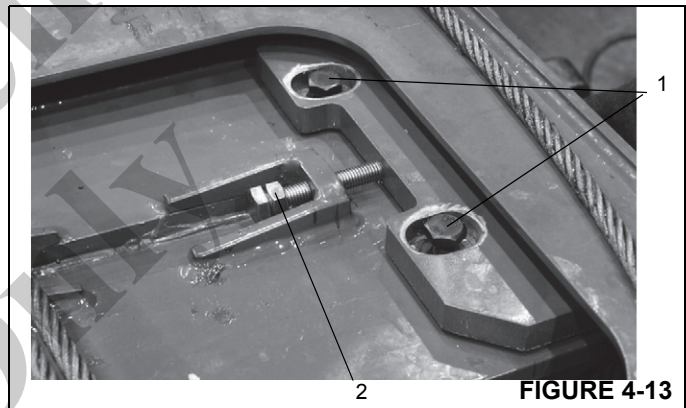

FIGURE 4-13
2. Remove the bolt (Figure 4-13, 1), washer, and offset washer securing each top rear adjustable wear pad and remove the wear pads, keeper plates and bolts (Figure 4-13, 2) from the top of the inner mid. Note location of wear pads and shims for installation.